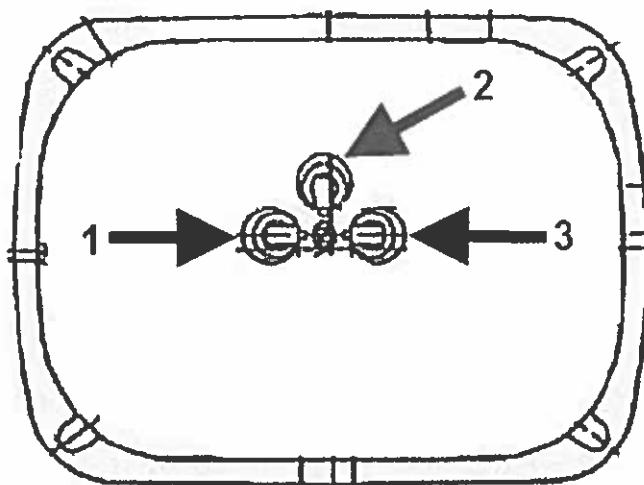

Figure 1 Rectangular Sealed-Beam Headlight (H5054)
5. Remove the electrical connector from the left side headlight. See Figure 1.
- Remove the electrical connector from the right side headlight. See Figure 1.